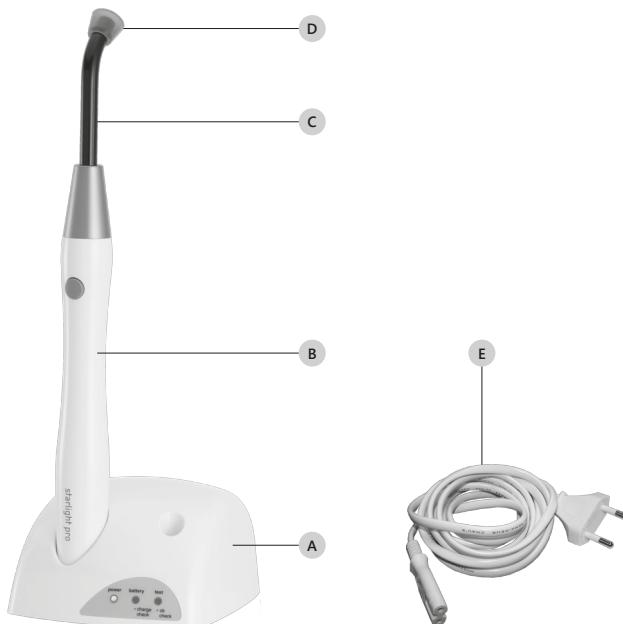
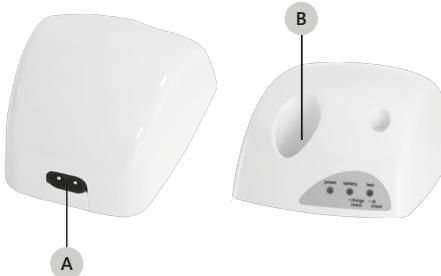

Figure 4 – List of Components
Figure 5 – Charging unit.
(!) CAUTION: Recharge the battery only with the Mectron charging unit (Figure 4 at page 8 - Ref. A). Do not attempt to recharge the battery using a generic battery charger. This entails a risk of explosion and fire.
Refer to Figure 4 at page 8:
⚠ WARNING: Do not introduce metal objects or the fingers into the handpiece housing in the charging unit (Figure 5 at page 10 - Ref. B) when the device is on.
2. Plug the power cable (Figure 4 at page 8 - Ref. F) into the connector on the back side of the charging unit (Figure 5 at page 10 - Ref. A) and then into the power outlet. The green power LED should light up (Table 1 at page 11 - Ref. A).
1. Place the handpiece into its housing in the charging unit (Figure 5 at page 10 - Ref. B). The green battery LED will light up (Table 1 at page 11 - Ref. B).
1. Place the handpiece into its housing in the charging unit (Figure 5 at page 10 - Ref. B).
⚠ CAUTION: Recharge the battery only with the Mectron charging unit (Figure 4 at page 8 - Ref. A). Do not attempt to recharge the battery using a generic battery charger. This entails a risk of explosion and fire.**⚠ CAUTION: The battery should be recycled or disposed of in the appropriate manner in accordance with the law.** The battery should not be thrown away with normal waste. The user will be liable for any damages caused by improper disposal of the battery.**⚠ CAUTION: Do not use the battery for purposes other than those for which it is intended.****⚠ CAUTION: Do not open, pierce or crush the battery. It contains toxic substances.****⚠ CAUTION: Do not burn the battery or expose it to a high temperature. There is a risk of explosion.****⚠ CAUTION: Do not short-circuit the battery terminals. This could cause burns and fire.**